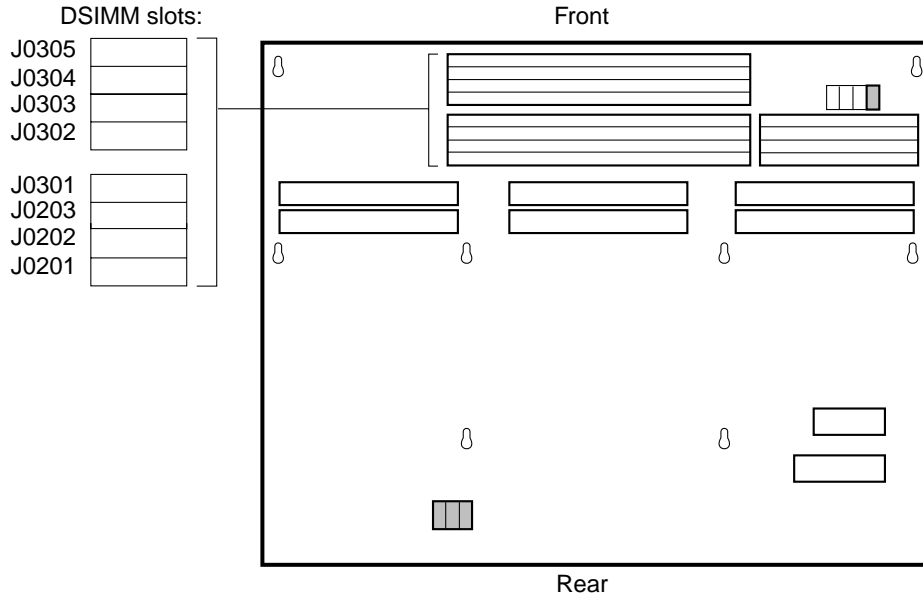

FIGURE 8-1 Location of DSIMMs on the MLB
3. Locate the DSIMM slots on the main logic board (MLB). See FIGURE 8-1.